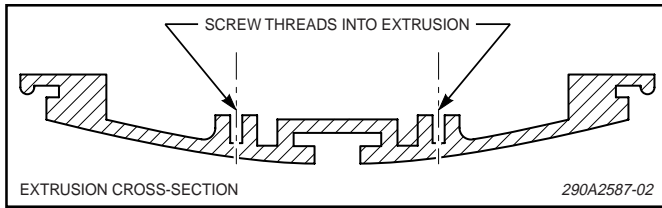

Figure 2.
3. Position the reflector assembly at the selected location facing the front or rear as required. Temporarily install the dome and ensure that the reflector is aligned with the center of the dome insert. Remove the dome and secure the reflector assembly to the extrusion with the #10-32 thread-forming screw (see figure 2). Repeat for the other side.